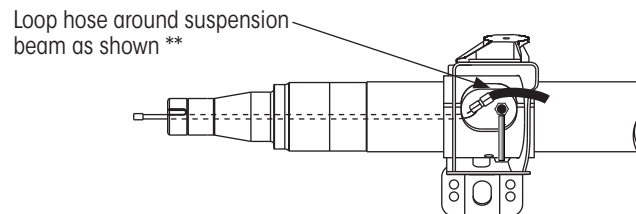

Figure 10: Suggested control line installation details for Top Mount, Narrow Bushing, Standard Duty Models **AANT, HKANT, AAZNT**
- » Tighten fitting to 20 ft. lbs. (27 Nm) (Figure 10).
3. **Clock the fitting**, rotate the fitting in the tightening direction only to align with the applicable suspension configuration. See Figures 10 to 14 or proper orientation.